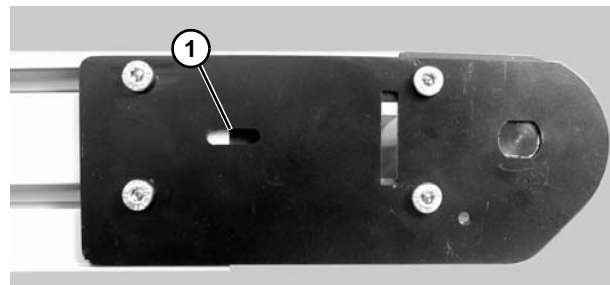

**Figure 39**
*Bowing of the belt (**Figure 39, item 1**) may occur if excessive tension is applied to the belt. Do not over tension the belt.*